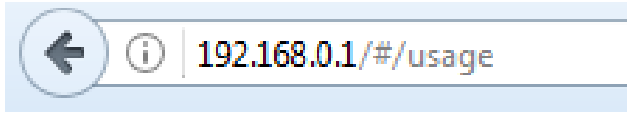

Figure 13
Step 20: Open a Web Browser on the PC and type **192.168.0.1** in the address field and press Enter to visualize the modem homepage (fig. 13)